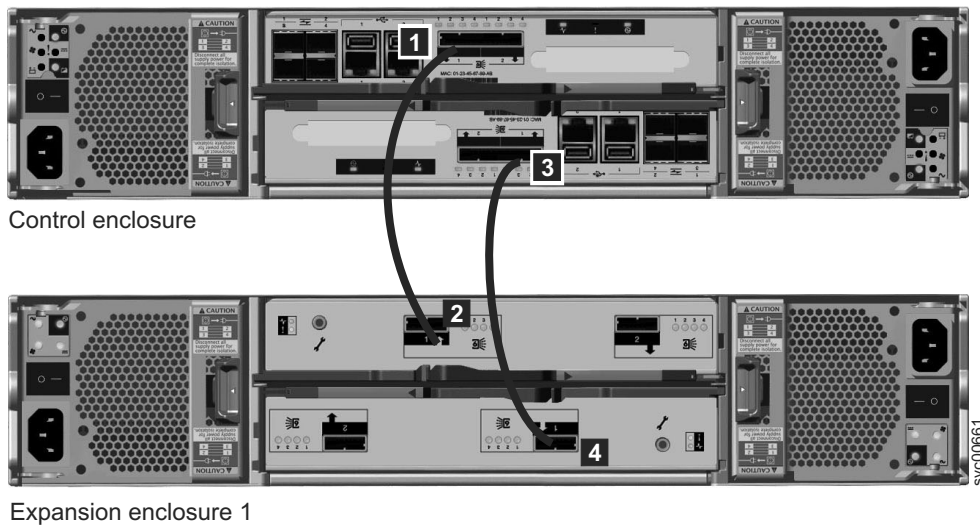

Figure 12. Attaching an expansion enclosure to the control enclosure
2. Attach the SAS cables from the control enclosure to the first expansion enclosure as shown in Figure 12 on page 15. Remove the protective end covers, if necessary. The first expansion enclosure is below the control enclosure.